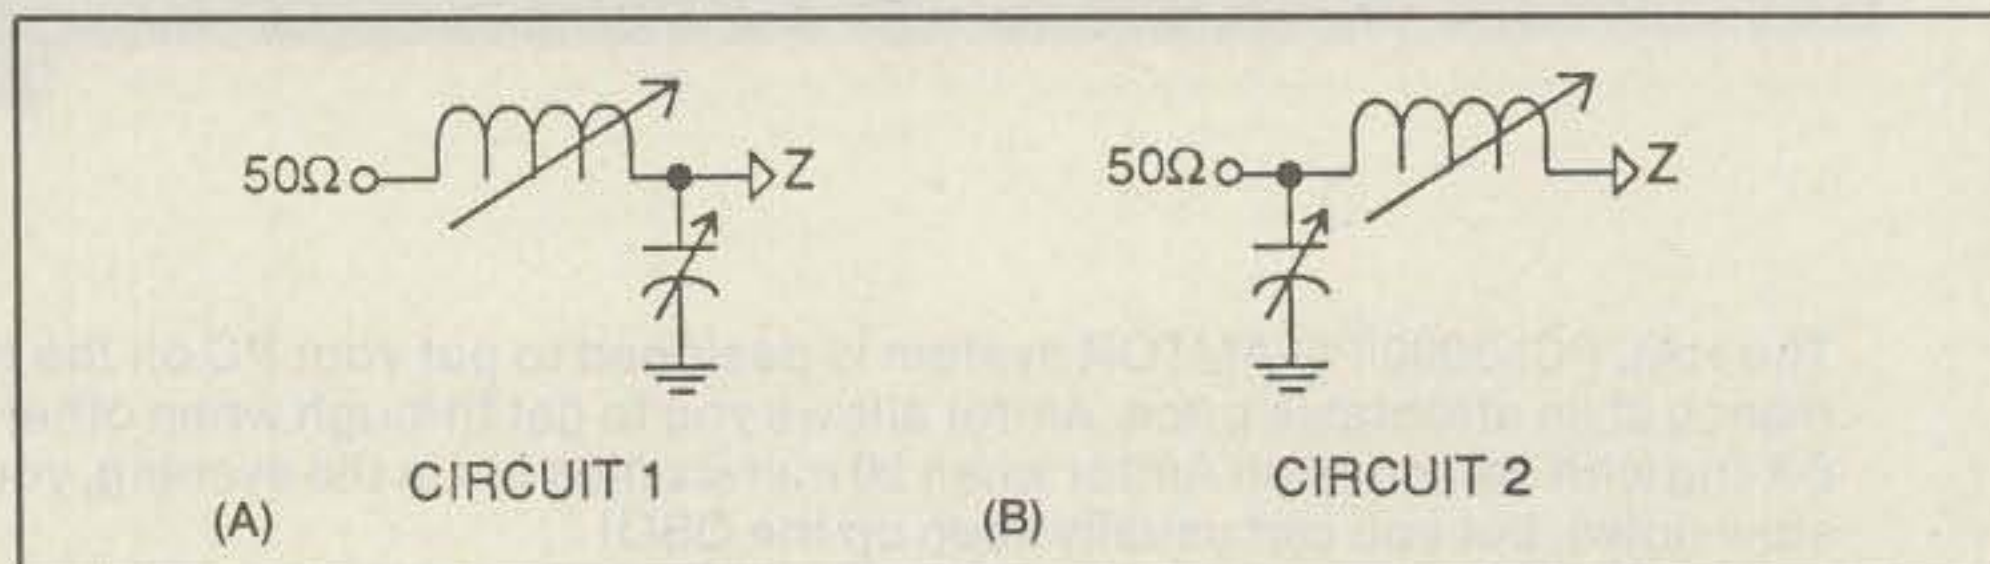

Fig. 1—At (A) we have configuration 1 and at (B) configuration 2.
The problems of matching a 50 ohm transmitter to an unknown antenna impedance can be solved by different circuit configurations. For the Model 253 Automatic Antenna Coupler, a reversible low-pass L-network (see fig. 1 at [A] and [B]) was chosen over a PI or TEE configuration for the following reasons.
Keep in mind that there are two circuit configurations with our PI—fig. 1 at (A) or (B). We start trying to match with fig. 1(A). The inductor rotates, with the algorithm searching for a match, meanwhile switching capacitors out of the circuit. If the capacitor value reaches zero, the algorithm tells the unit to switch to configuration (B) and then proceeds until it reaches a match of 1.3 to 1 or less. When that point is reached, the microprocessor stores the setting information in its memory so that it can instantly be called up when changing bands. In other words, set it once and forget it.